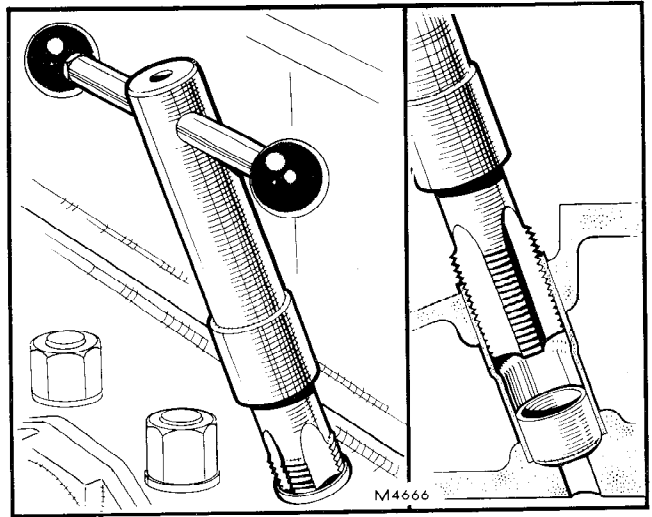

Fig. 1
4. Insert the sealing plug of tool 18G 213 A into the injector sleeve, then use the remainder of the tool to cut a thread in the sleeve (refer to Fig. 1).